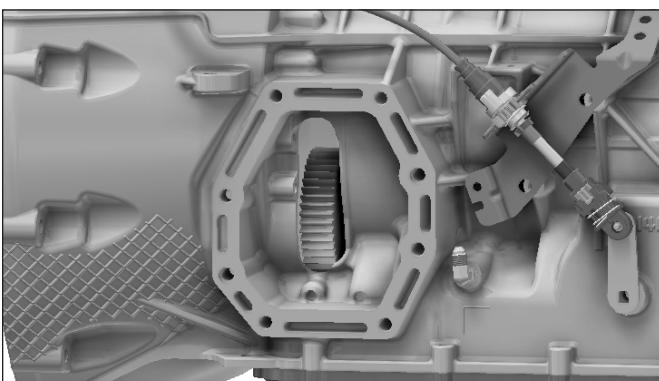
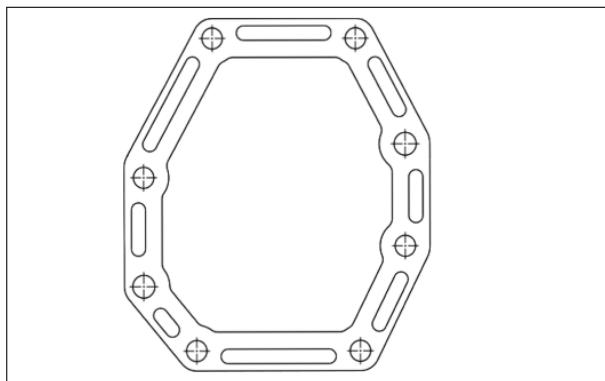

Figure 34
Figure 35
- Remove and discard the PTO aperture cover plate and gasket. Do not use this gasket when installing the PTO (**Fig. 34 and Fig. 35**).